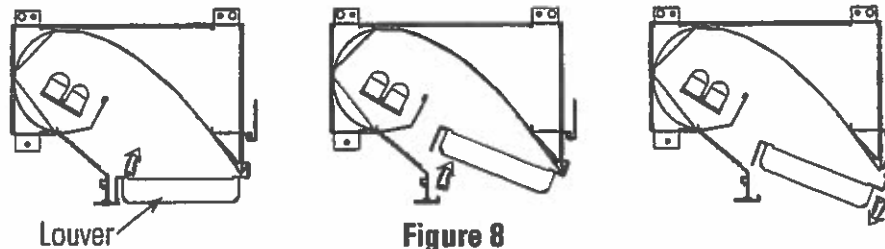

Figure 8
1. Remove the louver or lens if applicable. (Fig. 8)